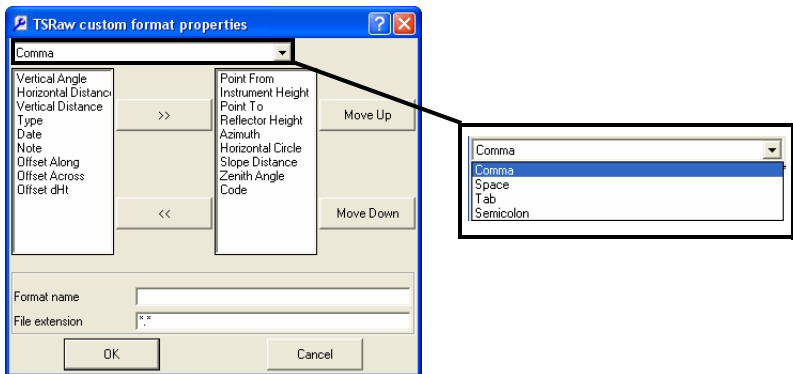

Figure 3-32. Select Delimiters
- On the *TSRaw custom format properties* dialog box, select the *Delimiters* from the drop-down lists (Figure 3-32).